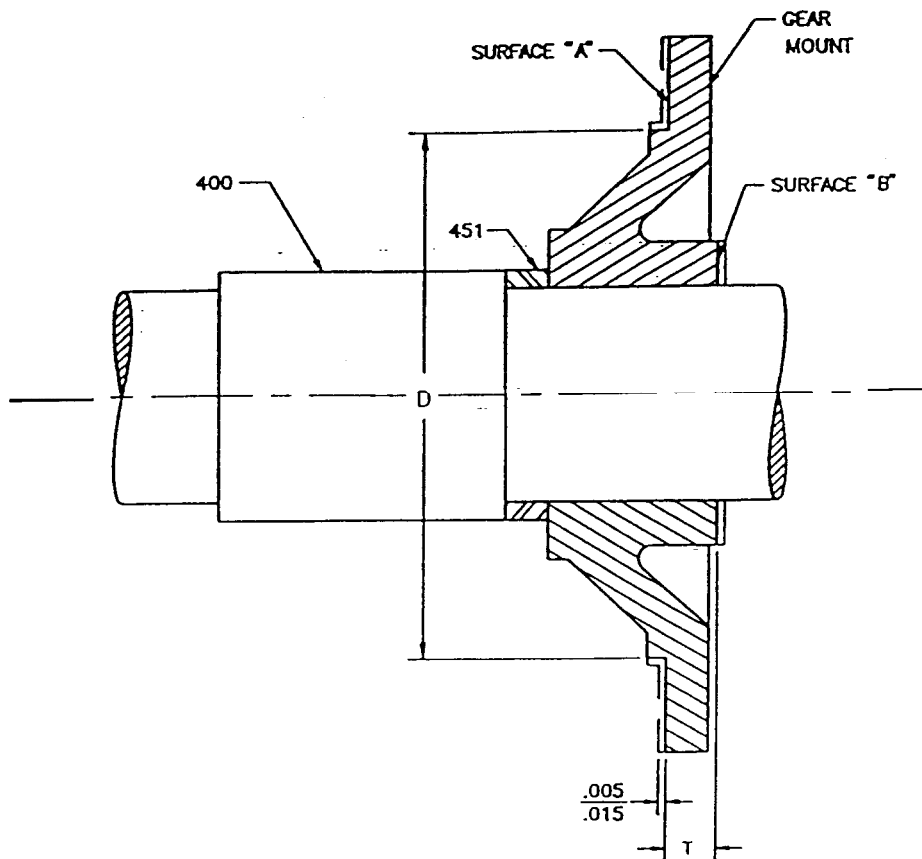

Figure 11
13.0 Machining of New Gear Mount (Refer to Figure 11)